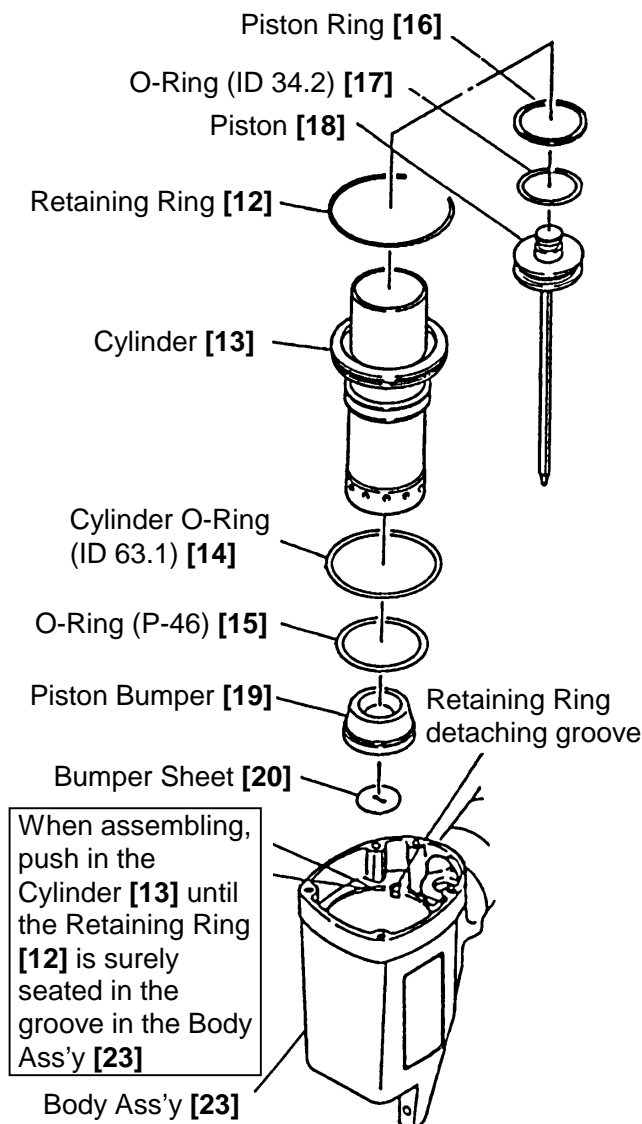

Fig. 12 Disassembly and Reassembly of the Cylinder, Piston, Piston Bumper, etc.
(2) Disassembly and Reassembly of the Cylinder [13], Piston [18], Piston Bumper [19], etc. (See Fig. 12.)